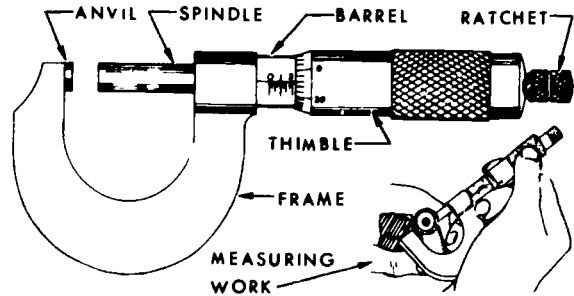
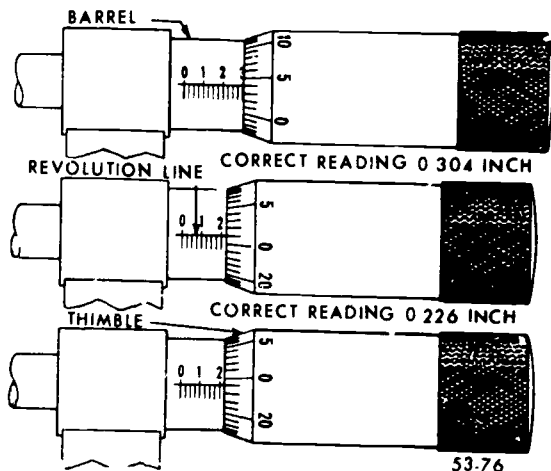

Figure 5-12. Outside micrometer.
Figure 5-13. Micrometer readings.
**Outside Micrometer.** As you probably know, micrometers come in many sizes, each with a range of 1 inch. For example, a 2-inch micrometer has a measuring range from 1 to 2 inches, and a 6-inch micrometer has a measuring range from 5 to 6 inches. The major parts of an outside micrometer are shown in figure 5-12. A micrometer can measure because of the spindle screw. Since this screw has a pitch of 40 threads per inch, turning the thimble 40 complete revolutions moves the spindle exactly 1 inch. A clockwise turn moves the spindle toward the anvil. You can easily understand, then, that a single revolution from one screw thread to the next will move the spindle  $1/40$ , or twenty-five thousandths
(0.025), of an inch (1,000 inch divided by 40 equals 0.025 inch). Along the barrel in figure 5-12, you can see the number 2 over the eighth graduation to indicate  $2/10$  inch (8 times 0.025 = 0.200). In figure 5-12, the thimble has traveled no *full* graduations past the 2 point; therefore the measurement reads 0.200 inch (0.200 inch as signified by the number 2) plus some yet unknown quantity indicated by the spindle having gone past the number 2 graduation. Now look at the graduation on the thimble. Since the circumference of the thimble is divided into 25 equal spaces, each graduation represents  $1/1000$  inch (0.001 inch). With a reading of 0.200 inch on the barrel and a reading of 23 graduations past the zero point on the thimble, the final measurement in figure 5-12 is two hundred twenty-three thousandths of an inch (0.223 inch). Figure 5-13 shows some additional micrometer settings and readings. Study them until you are certain that you understand how the readings are obtained.